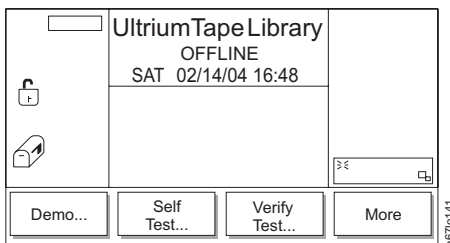

Figure 4-188. Exercise Submenu
3. Press the button below the **Exercise** softkey. The Exercise Submenu displays (see Figure 4-188).